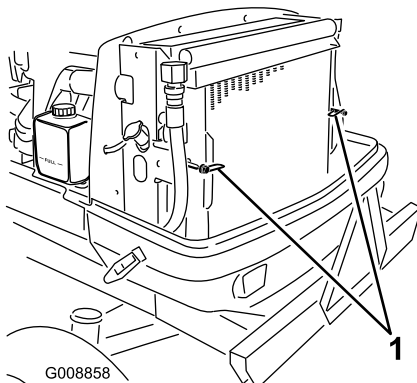

Figure 77
2. Rotate the latches (Figure 77) securing the oil cooler to the frame.